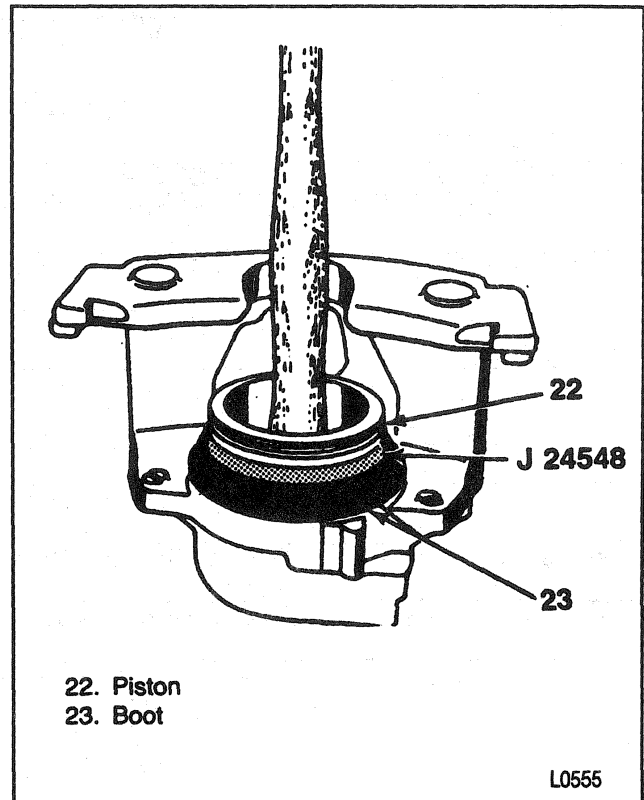

Figure 17—Installing the Piston
3. Boot (23) on J 24548.
5. Piston (22) inside J 24548 (Figure 17).